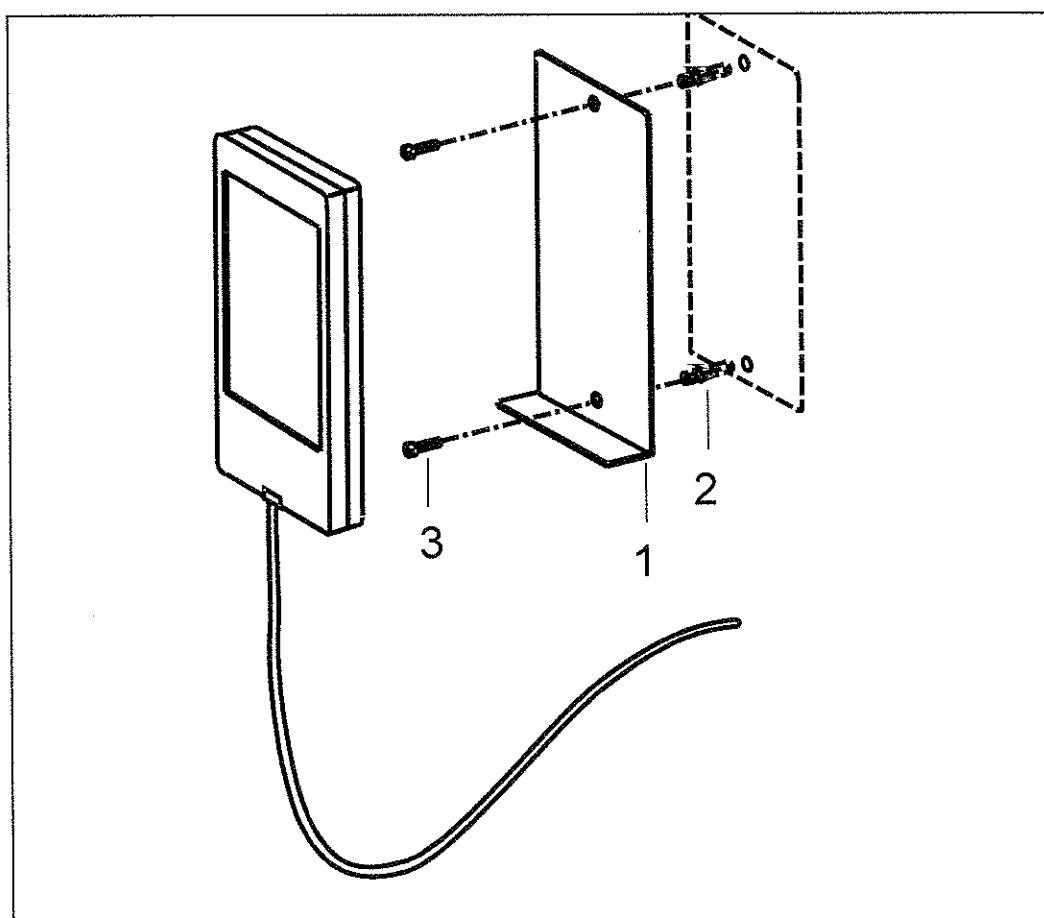

Figure 7 Remote hand control mounting
- b) Mark holes of Remote Control (Code 56603358) support plate (1) on the wall, 1450 mm (57") from Remote Control top to floor (See Figure 7 page 23.)
- c) Introduce the 2 rawlplugs (2) and secure to wall with the two screws (3).